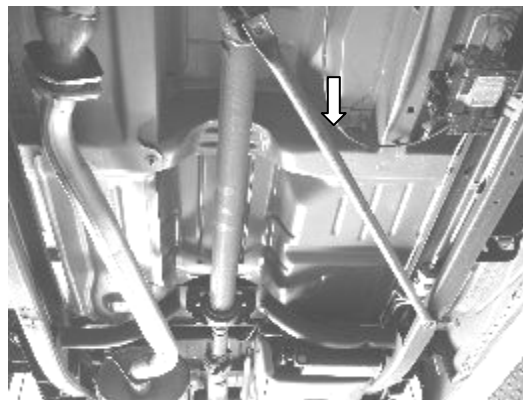

Figure 2
3. Unbolt one side of support bar and place hardware to the side for use during the installation of your new exhaust system. Swing the support bar to the side as shown in figure 2.